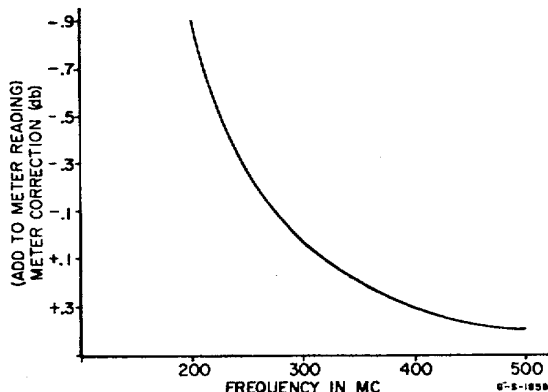

Figure 5-3. Model 349A Noise Source, Typical Correction for Hot-Cold Loss at Low Frequencies
- c. At frequencies below 500 Mc refer to Figure 5-3.